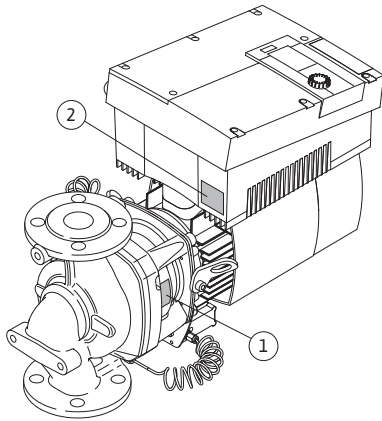

Fig. 11: Arrangement of the name plates:
- The pump name plate (Fig. 11, Item 1) includes the serial number (Ser.-No.../...), which is, for example, required for spare parts ordering.
- The electronic module name plate (electronic module = inverter or frequency converter) (Fig. 11, Item 2) indicates the designation electronic module being used.